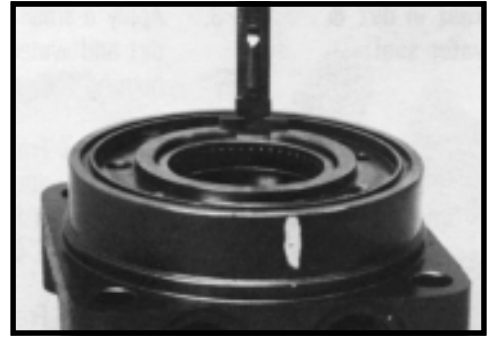

Figure 35
CAUTION: If the bearing mandrel specified in the "Tools and Materials Required for Servicing" section is not available and alternate methods are used to press in bearing/bushing (13) and (19) the bearing/bushing depths specified must be achieved to insure adequate bearing support and correct relationship to adjacent components when assembled. SEE FIGURE 35.